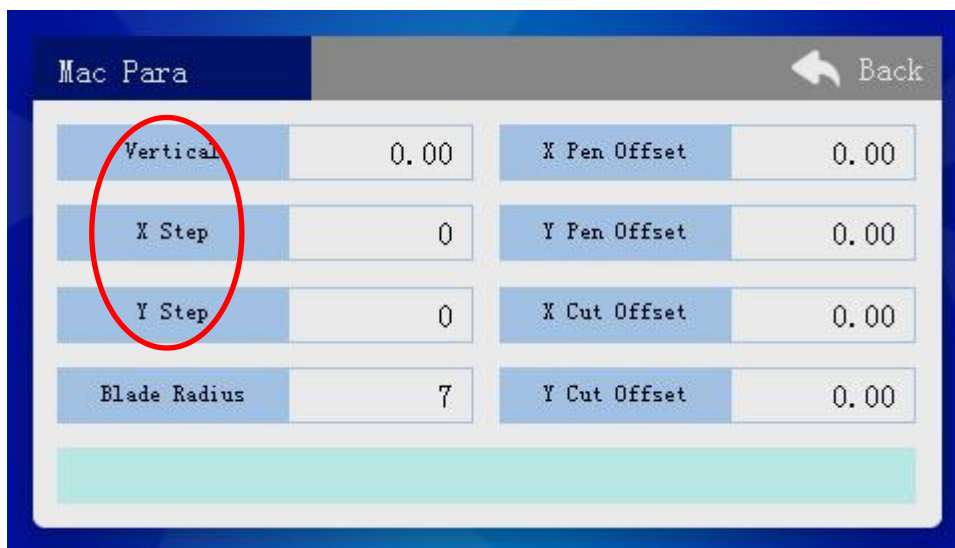

figure 5
2. Check the size of the test graph "50 x 50". The X, Y direction size and the error between the left and right diagonal lines of the square are measured by high precision steel ruler. Through the operation of touch screen [setting] into [MacSet]-[Mac Para] debug X, Y step size correction parameters and verticality parameters. (parameter values can be positive or negative) figure 5